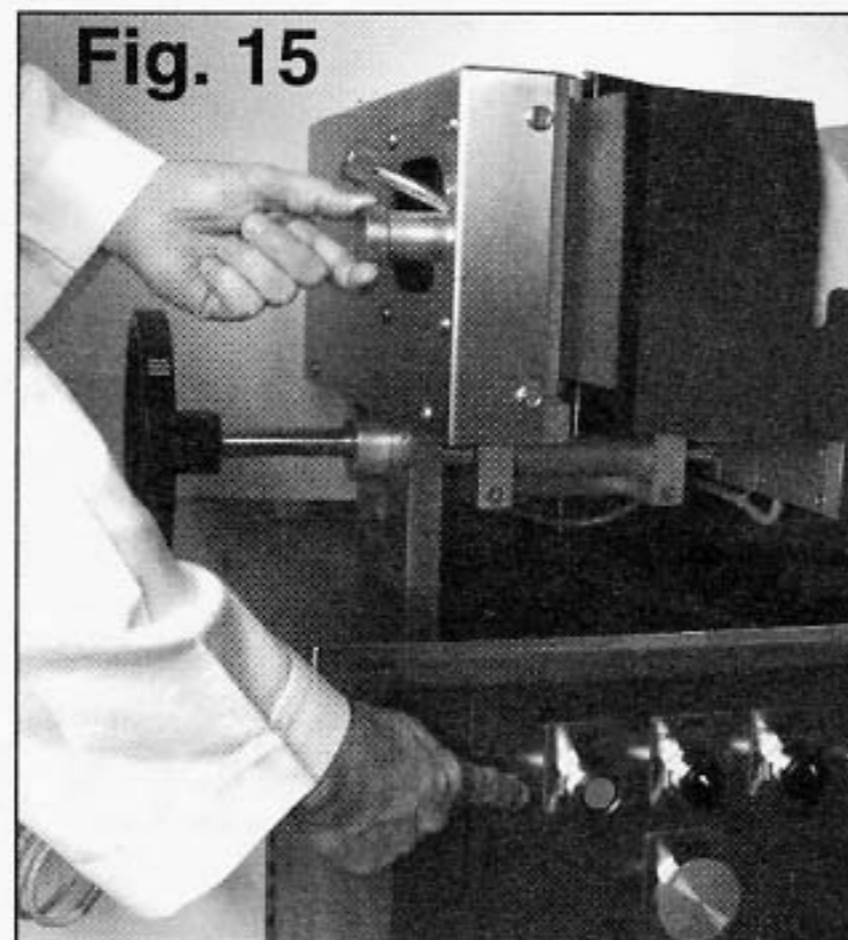

Fig. 15
4. Continue holding in the Dresser Button until you turn the Dresser Advancement Knob 1 click **CLOCKWISE** (see fig. 15). This moves the Diamond Dresser Bit into position for dressing the Honing Wheels one time.